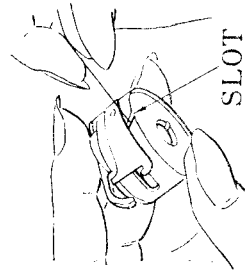

Fig. 6
2. Take the bobbin between thumb and forefinger of right hand so that the thread on top leads from the left to the right, as shown in Fig. 6.
3. Insert bobbin into bobbin case, pull the thread into the slot of the bobbin case as shown in Fig. 6 and then draw it under the tension spring and into the fork-shaped opening of the spring as seen in Fig. 7.